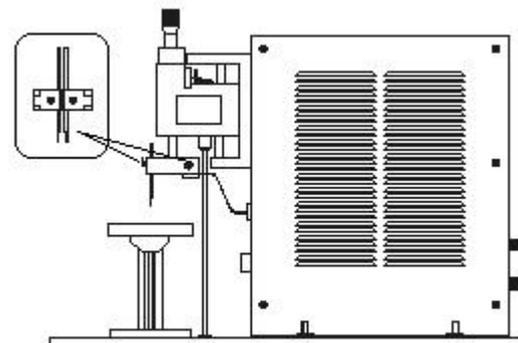

Fig.2 Welding electrodes adjustment
- 5.1 Adjust the height of welding electrodes (See Fig.2): Use a wrench to unscrew Screw 8 for adjusting the height of welding electrode. Adjust (or replace) the length protruding under the electrode (usually 20mm, excessive length may cause welding electrode to distort) and retighten the screw. Use a wrench to unscrew Screw 7 for adjusting the width of the welding electrodes. Adjust the two welding electrodes to optimal distance depending on the width of welding electrodes and then retighten the screw.